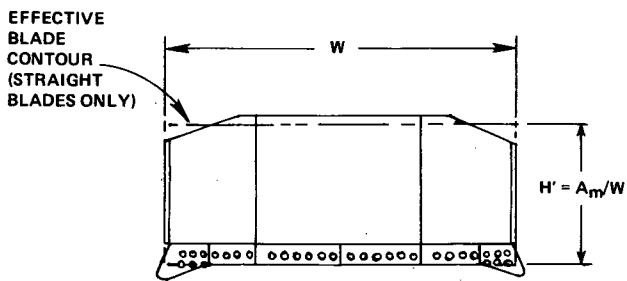

FIG. 3—STRAIGHT, SEMI-U, U-BLADE DIMENSIONS
4.1.2 Blade Width (W, Fig. 3)—The distance in meters from outside to outside of the blade, exclusive of the end bits. W corresponds to dimension G of SAE J173.
4.1.3 Effective Blade Height (H', Fig. 3)—The vertical height in meters that with W width, produces a projected area equal to  $A_m$ ; ie:  $H' = A_m/W$ .
4.1.4 Effective Blade Contour (Fig. 3)—Simplified representation of the blade face for calculating the blade capacity. It is the vertical plane bounded by W and H'.